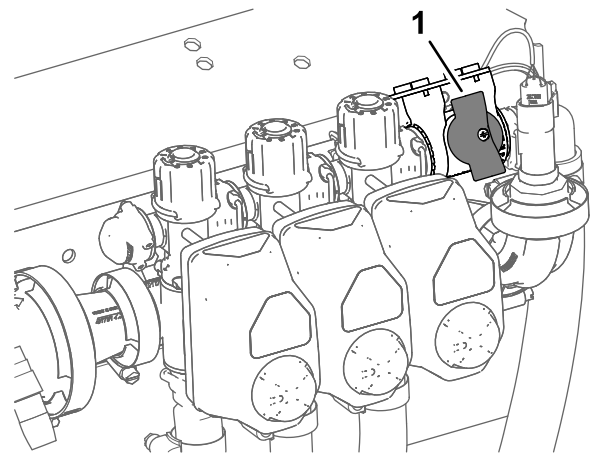

Figure 27
2. Rotate the knob for the section-bypass shutoff valve to the closed position (Figure 27).